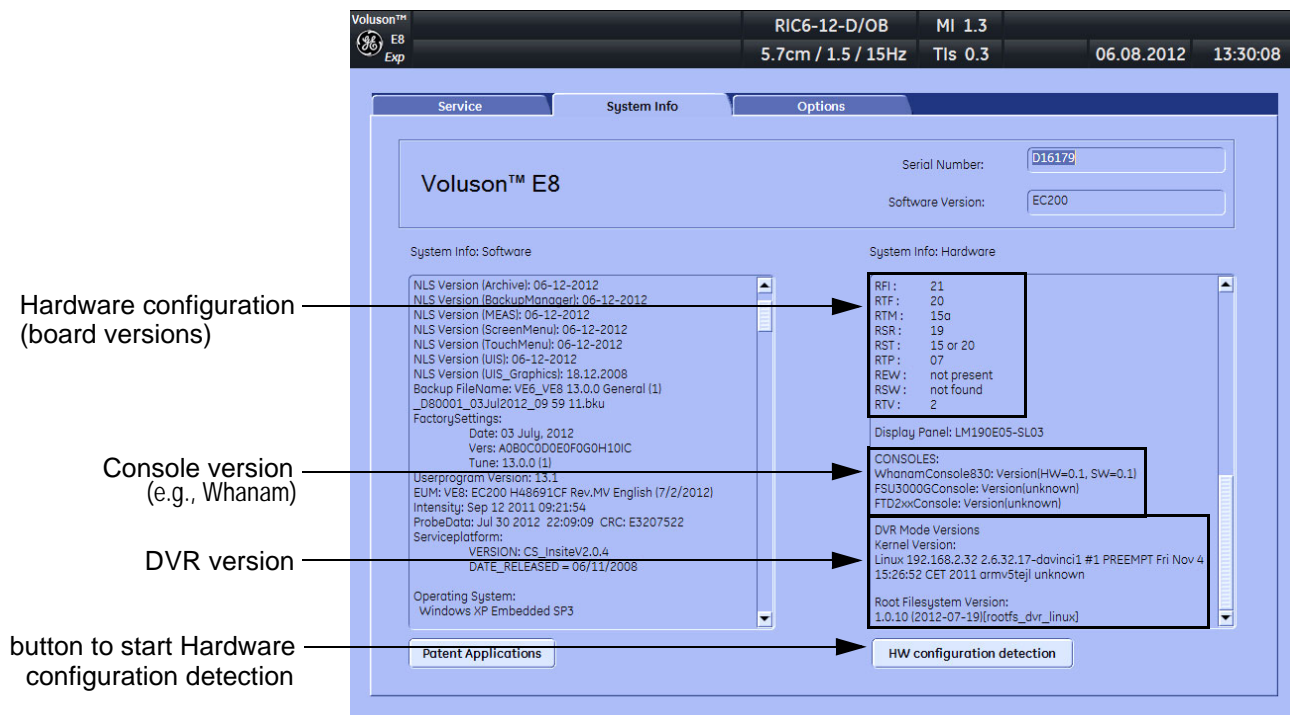

Figure 7-1 System Setup - Administration - SYSTEM INFO page (e.g., BT13)
NOTE: All the above information can be found in the System Info page; see: Figure 7-1 on page 7-3.
- 6.) Click the **HW CONFIGURATION DETECTION** button (see: Figure 7-1 on page 7-3) on the bottom of the page to start board detection.
The system is restarted automatically after the check and the board versions are displayed in the System Info page (see: Figure 7-1 on page 7-3) and are also stored to the CSD.